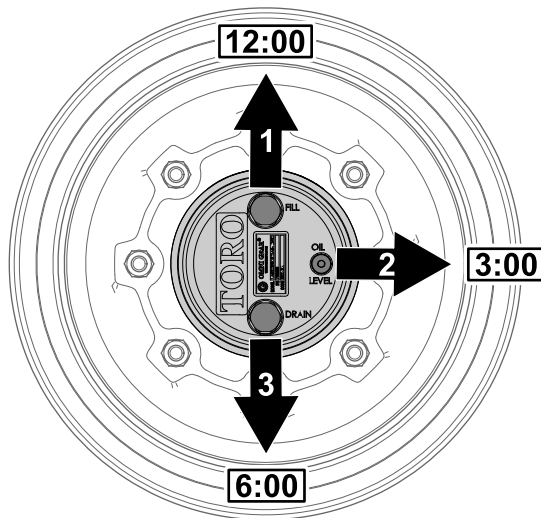

Figure 59
1. Park the machine on level surface, position the wheel so that the fill plug is at the 12 o'clock position, the check plug is at 3 o'clock position, and the drain plug is at the 6 o'clock position (Figure 59).
2. Remove the check plug at the 3 o'clock position (Figure 59).
1. Park the machine on level surface, position the wheel so that the fill plug is at the 12 o'clock position, the check plug is at 3 o'clock position, and the drain plug is at the 6 o'clock position; refer to Figure 59 in Checking the Planetary Gear-Drive Lubricant (page 53).